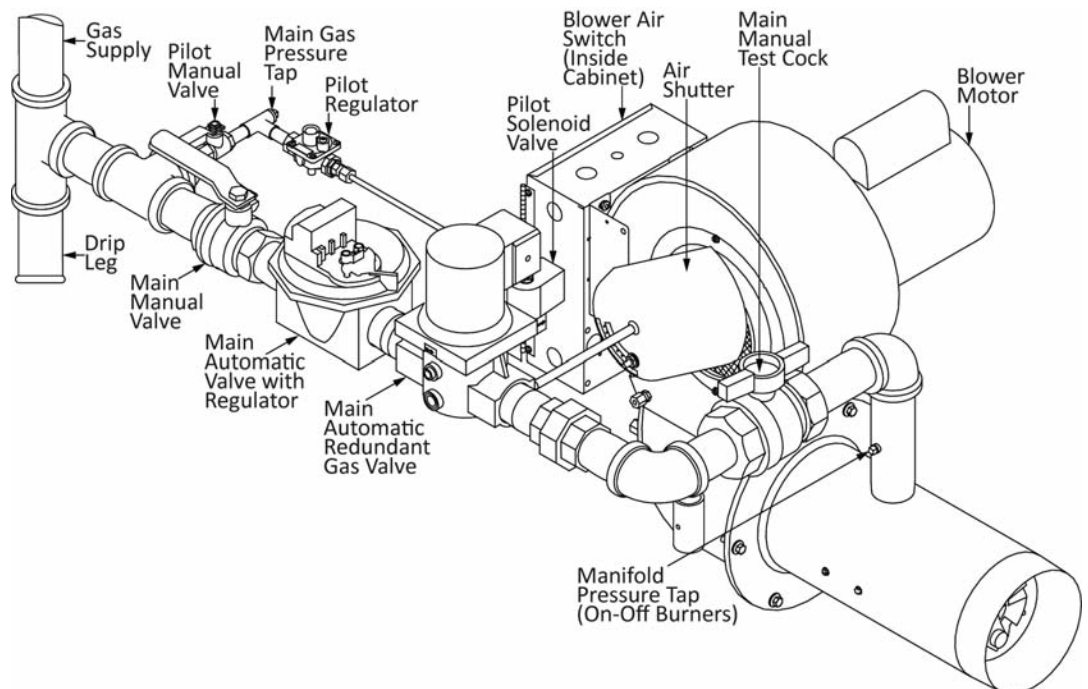

Figure 8: Standard Piping Diagram MPG Burner
- Provide a sediment trap, manual safety shut-off valve and union in piping close to burner as shown in Figure 8:
- Piping follows normal practices and should be connected to the burner in the manner shown in Figure 8. If the piping must be rearranged because of space limitations be sure to carry out the sequence of components illustrated. While the pilot regulator can be mounted in any position, the main regulator should be mounted upright and in a horizontal run of pipe.